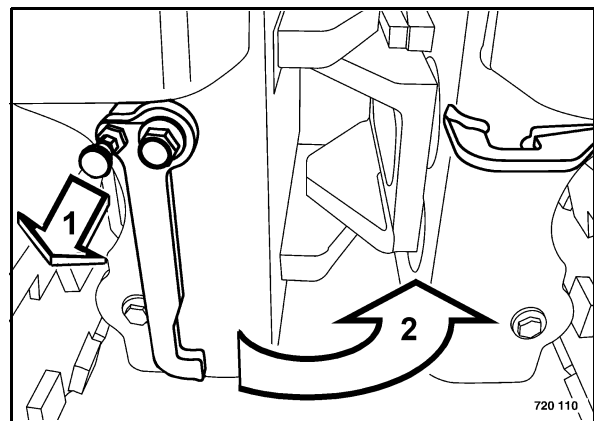

Fig. 88
- After driving the machine on the transport vehicle pull out the locking knob 1 (Fig. 88) and engage the articulation lock in the locking eye (2). Let the locking knob click into place.